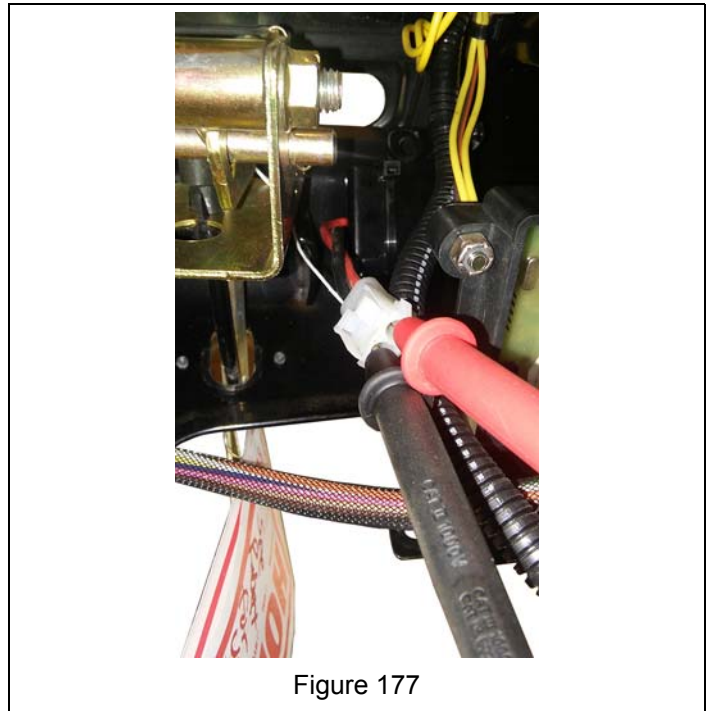

Figure 177
- b. Check the battery. With the engine off, the battery voltage should be 7.2 V DC – 8.4 V DC. See Figure 177.
If DC output is higher than 8.4 V DC, replace ECU. See Figure 177.